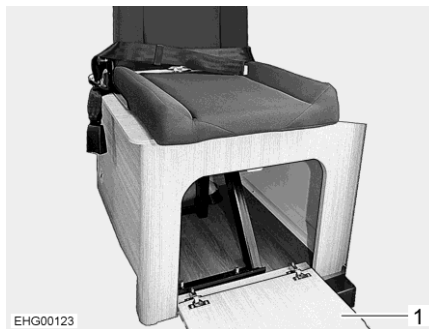

Fig. 28 Chest frame (open)
- Fold flap (Fig. 28,1) on the chest frame downwards.